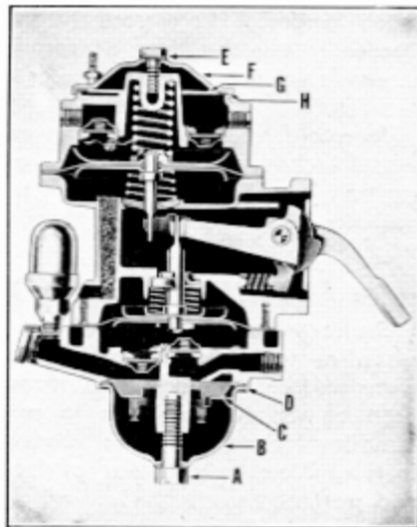

Figure 19
The pump is provided with a screen which should be cleaned every 2000 miles by removing the lower cap screw (A) and bowl (B), (Figure 19). Before replacing screen (C) and bowl gasket (D), carefully examine them and renew if necessary.